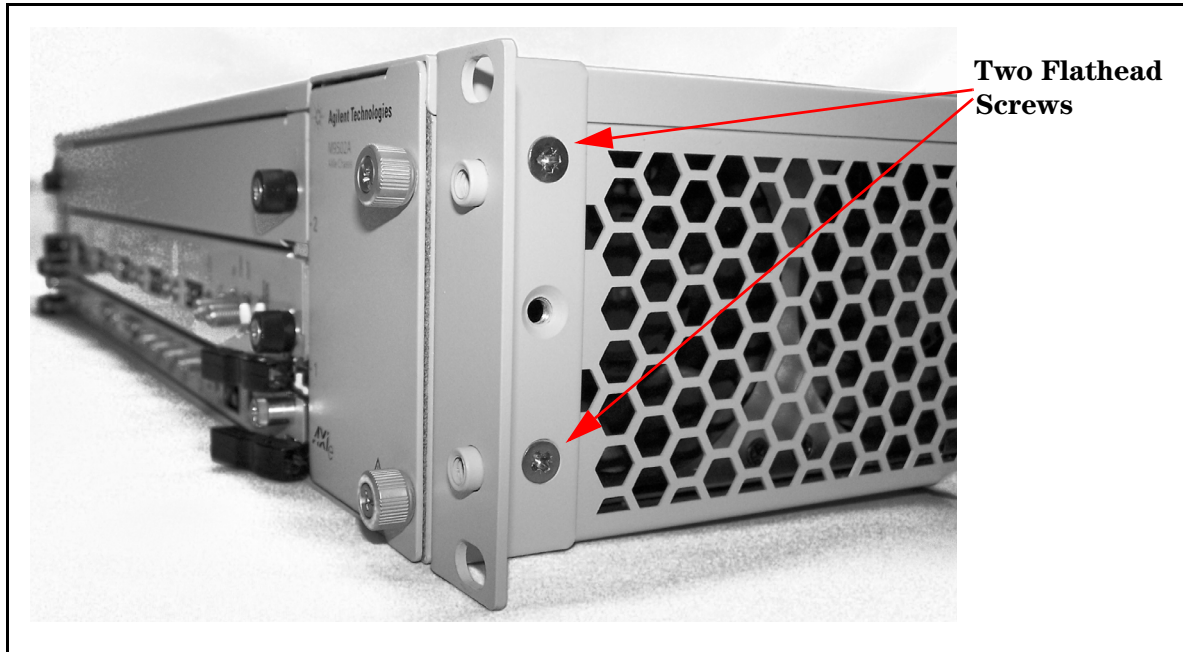

Figure 4 . Attaching Rack Mount Flanges to M9502A Chassis
- 4 Attach the rack mount front handle flanges to the chassis. Refer to Figure 4.